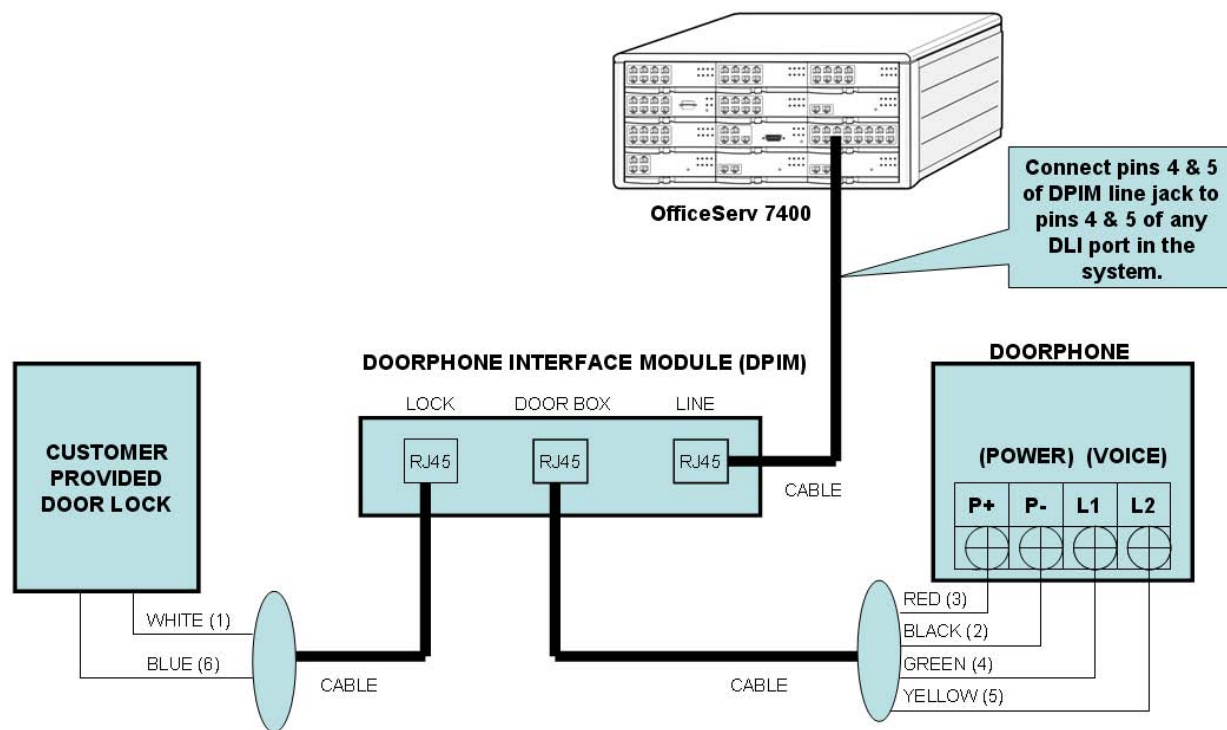

Figure 7.8 Connecting a Door Phone and a Door Lock
- 1) Connect the Door Phone Interface Module (DPIM) line jack to any DLI port in the OfficeServ 7400 system using twisted pair (24AWG/26AWG). Use MMC 221 to assign a directory number to the doorphone. See Figure 7.8.
- 2) Connect the Door Phone to the DPIM-door box jack using 4 conductor twisted pair cable. See Figure 7.8 for power and voice pair pin assignments.
- 3) If required connect a custom provided door lock to the lock contact pair on the DPIM using twisted pair wire (24/26 AWG) as indicated in Figure 7.8.